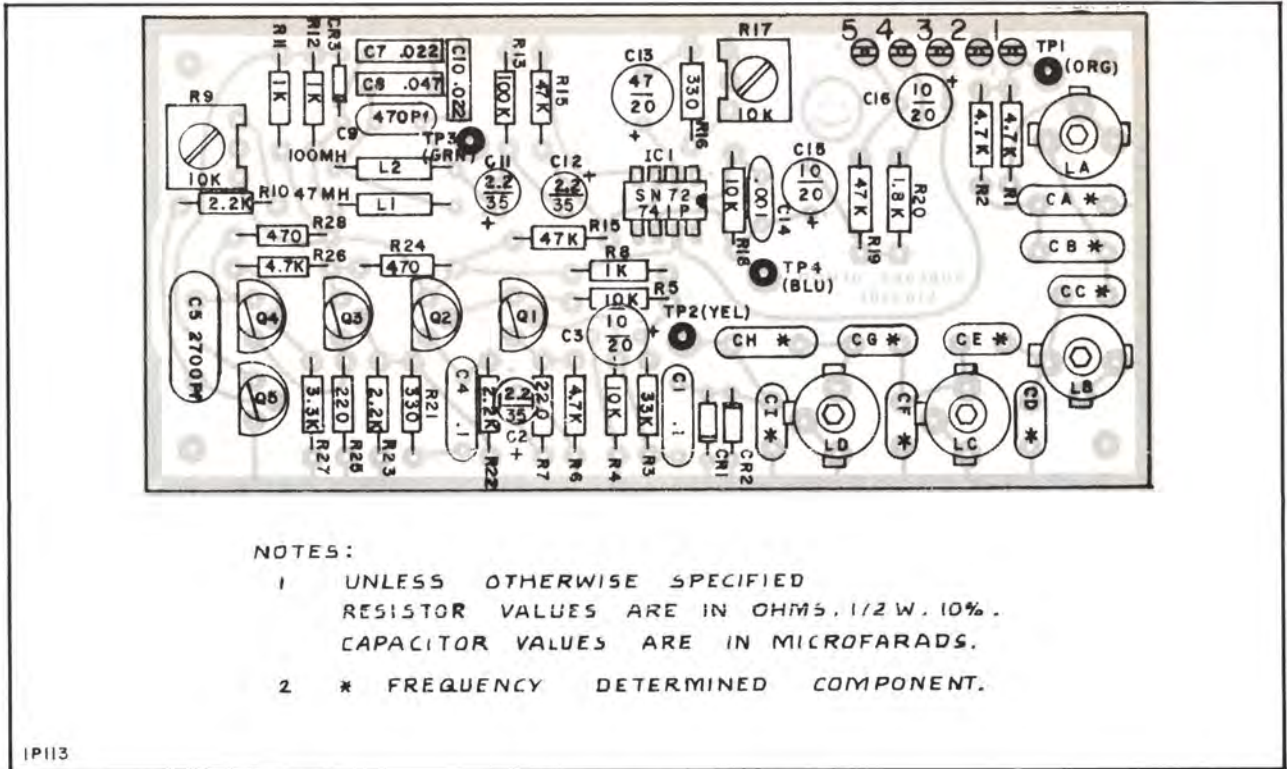

Figure 27. SU and TU Subcarrier Demodulator, Parts Location
- PARTS LOCATION - SEE FIGURE 27.